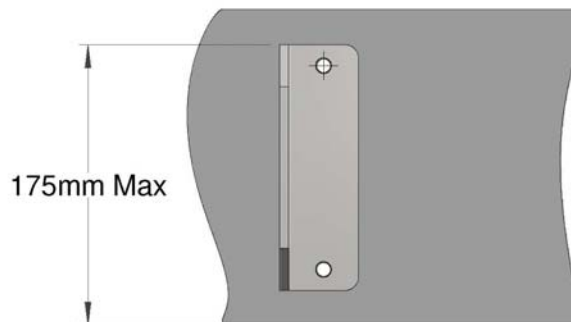

Figure 3, Top Bracket Positioning
2. Using the yellow template (Y1), drill M8 holes for the two top brackets. The maximum recommended overlap for post fixing = 100mm and for lintel fixing = 175mm (Figure 3). It is essential that the top brackets are level and upright.
ATTENTION: To prevent abrasion and material fray, maximum overlap between bracket face and edge of fixing must not exceed that shown in Figure 3. If overlap exceeds these recommendations ensure there are no sharp objects on the building to damage the material, and rough surfaces such as concrete is protected with PVC strip or similar.